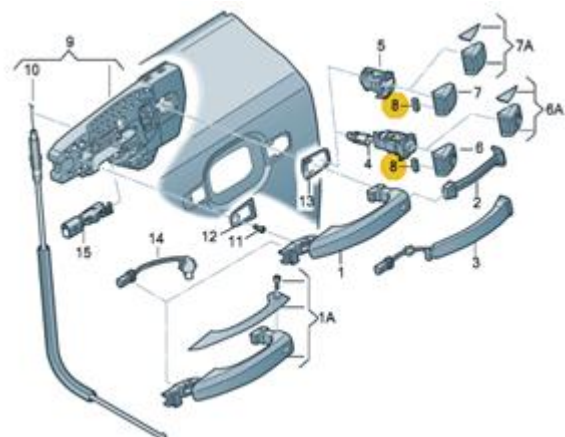
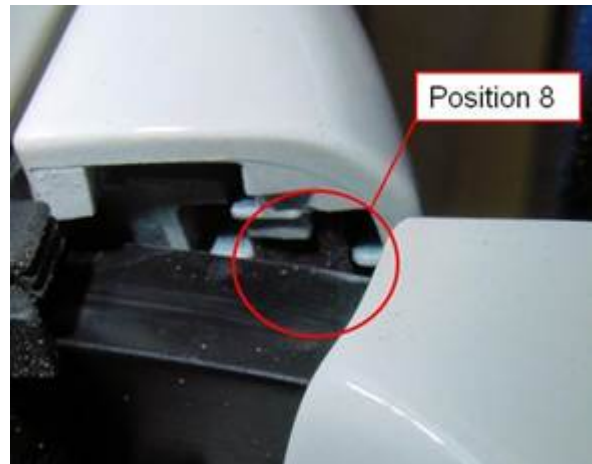
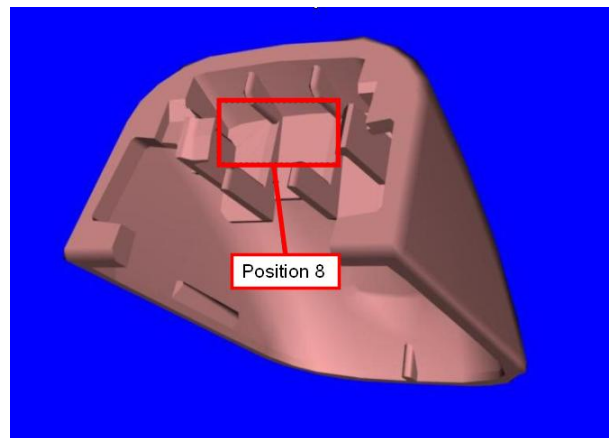

Figure 3. Magnet location in ETKA illustration.
Figure 4. Door handle cap with an installed magnet.
Figure 5. Location for magnet in door handle cap.
1. Pull the affected door handle open and check if the magnet is installed (indicated as "Position 8" in ETKA illustrations) (Figures 3, Figure 4, and Figure 5).